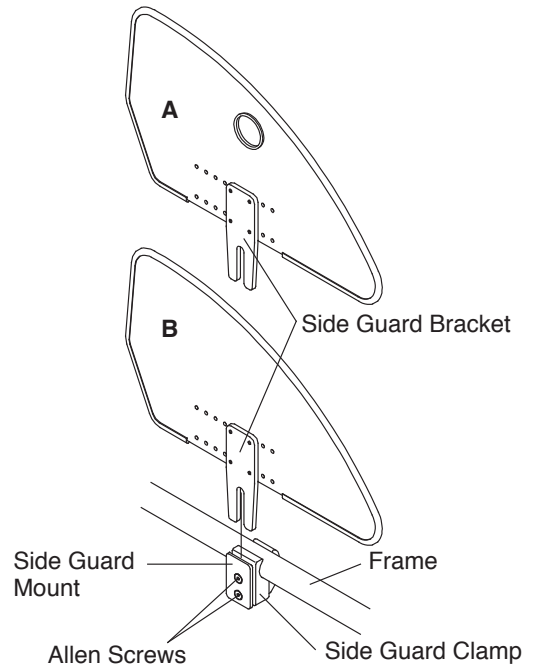

Figure 36
To remove either type of rigid side guard, lift the side guard out of the side guard mount by grasping it at the top or by placing a finger in the hole and pull it upward. See Figure 36. To replace, place the side guard bracket into the slot between the side guard mount and the side guard clamp and push down. See Figure 36.
You can adjust the “snugness” of the fit of the side guard bracket in the side guard mount by loosening or tightening the two Allen Screws in the side guard mount. See Figure 36.
Either type of rigid side guard can be made “non-removable” by firmly tightening the two Allen Screws in the side guard mount while the side guard is installed. See Figure 36.
1. Remove the side guard from the side guard mount. See Figure 36.